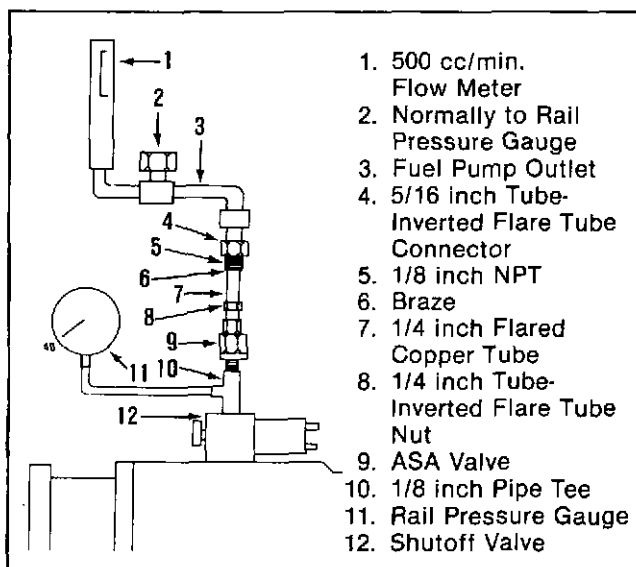

Fig. 10-10, (F5396). ASA valve installed on the fuel pump test stand.
1. Install the ASA valve in the pipe tee in the shutoff valve, Fig. 10-10.